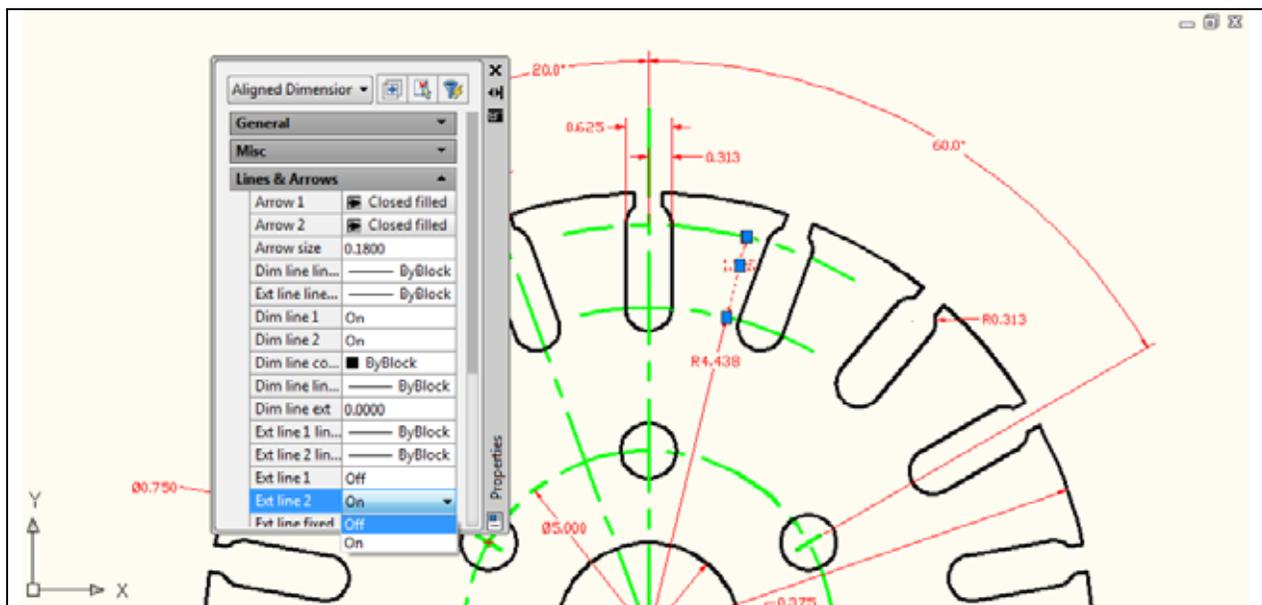

Figure 6.23 – Modifying Dimensions Using the Properties Tool
For the second modification, select the 1.125 aligned-dimension as shown in Figure 6.23 and the Properties window will change for that measurement. To remove the two small dimension extension lines that are at the points of the dimension arrows, double click on the On for Ext 1 and the text will change to OFF. Repeat the same process for the Ext 2 to change the text to OFF. Click on the Close button (X). For the second modification, select the 1.125 aligned-dimension as shown in Figure 6.23 and the Properties window will change for that